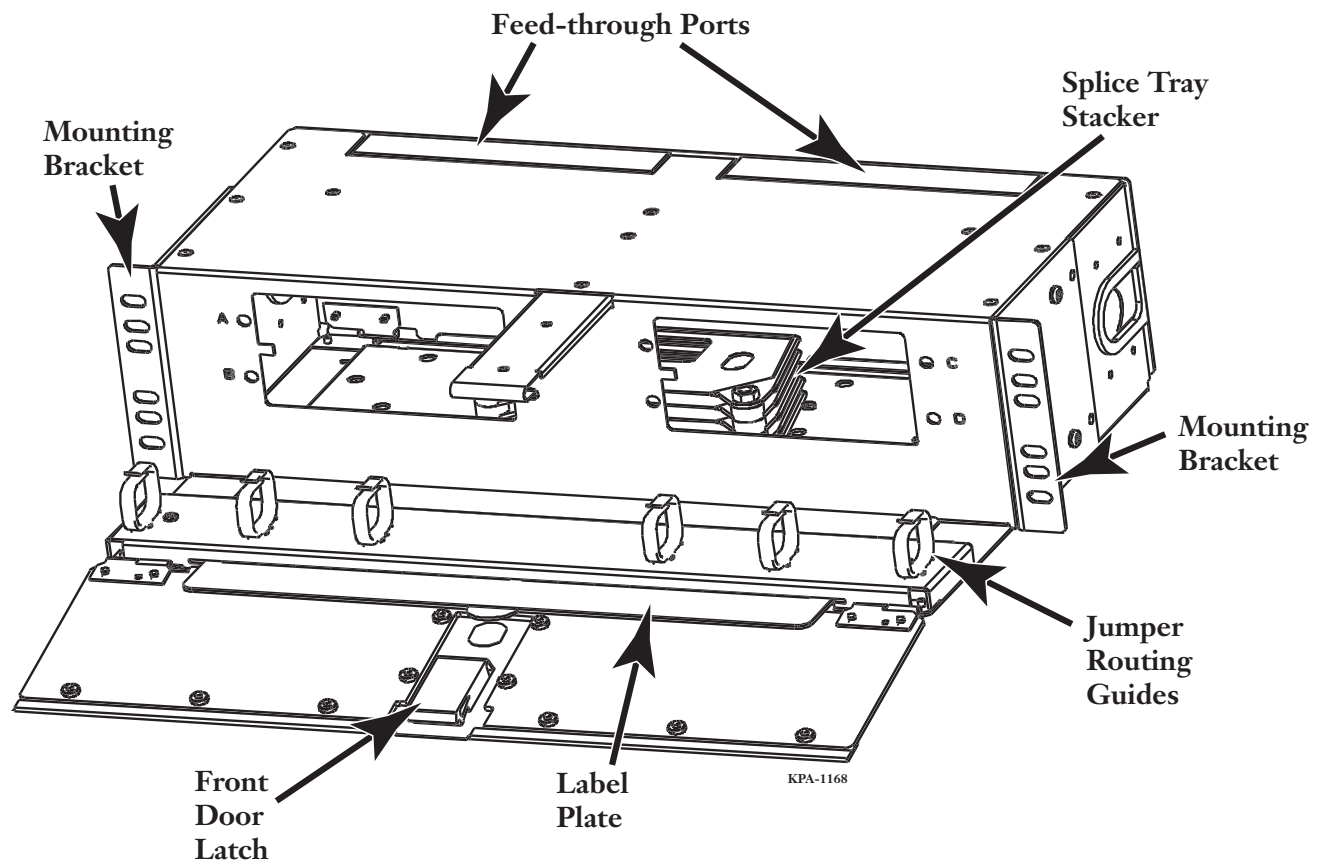

Figure 2
5.1 Components are illustrated in Figure 2. The connector panels have been removed so the splice tray stacker in the rear of the unit is visible.
- 5.1** Components are illustrated in Figure 2. The connector panels have been removed so the splice tray stacker in the rear of the unit is visible.